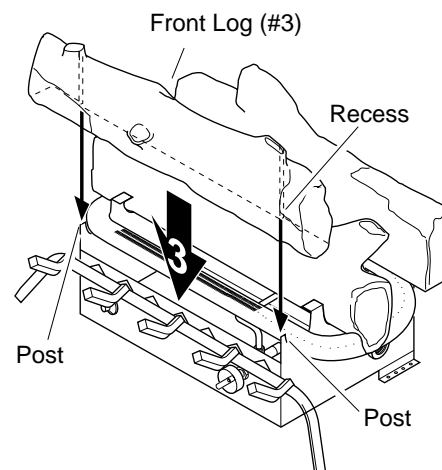

Figure 21 - Installing Front Log (#3)
3. Locate the recesses on the back of the front log (#3). Fit these recesses between the posts of the grate base (see Figure 21).